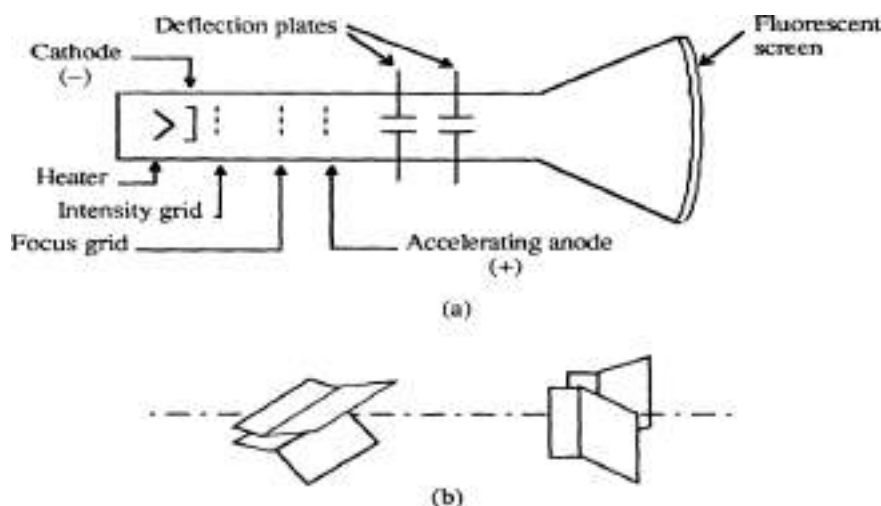

Figure 1. Cathode-ray tube: (a) schematic, (b) detail of the deflection plates.
An oscilloscope is a laboratory instrument commonly used to display and analyze the waveform of electronic signals. The cathode-ray oscilloscope (CRO) is a common laboratory instrument that provides accurate time and amplitude measurements of voltage signals over a wide range of frequencies. A typical oscilloscope can display alternating current (AC) or pulsating direct current (DC) waveforms having a frequency as low as approximately. Its reliability, stability, and ease of operation make it suitable as a general-purpose laboratory instrument. The heart of the CRO is a cathode-ray tube shown schematically in Fig. 1.